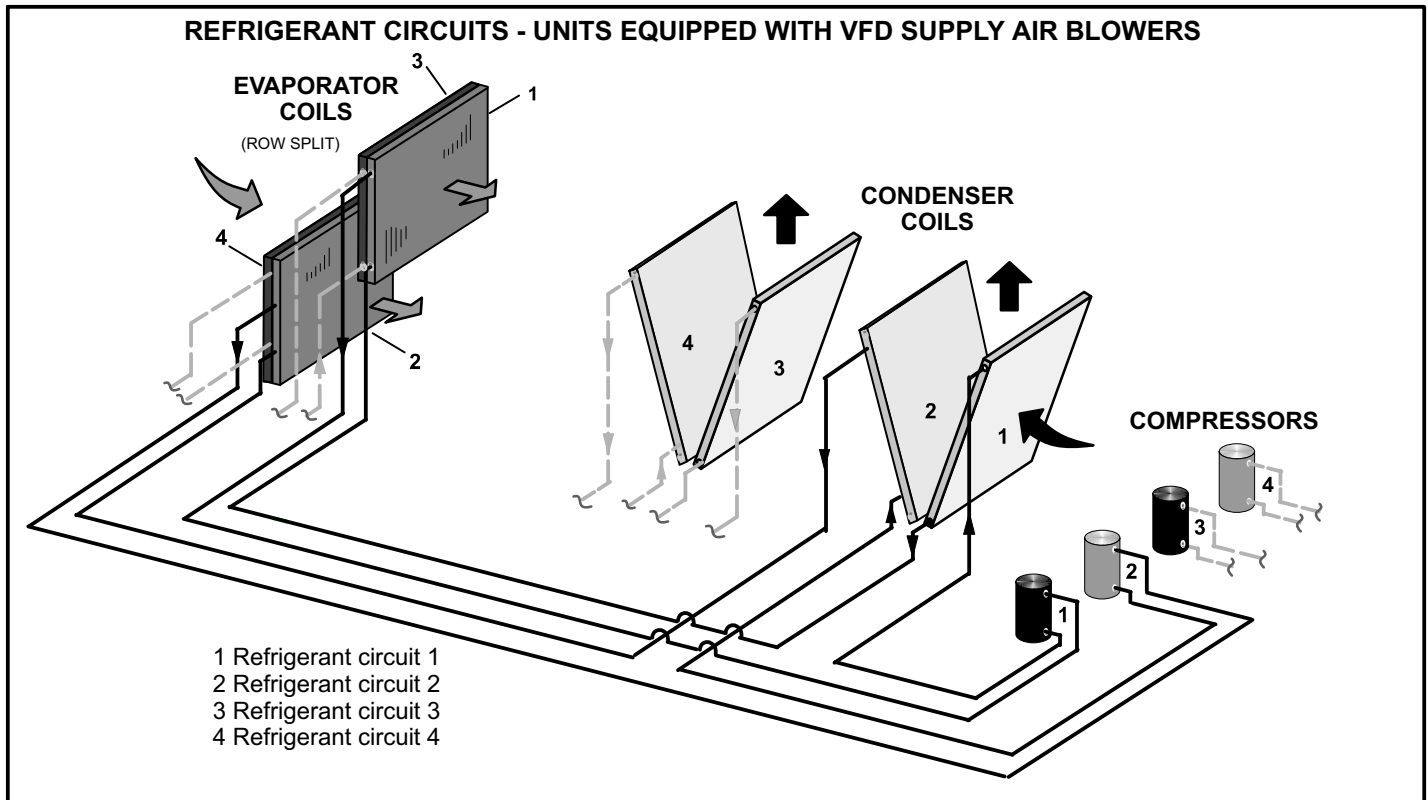

FIGURE 23
- 3- Each refrigerant circuit is separately charged with R-410A refrigerant. See unit rating plate for correct amount of charge. See figure 23 for refrigerant routing on VAV units and MSAV units without re-heat. See figure 42 for refrigerant routing on units equipped with a reheat coil (Humiditrol).